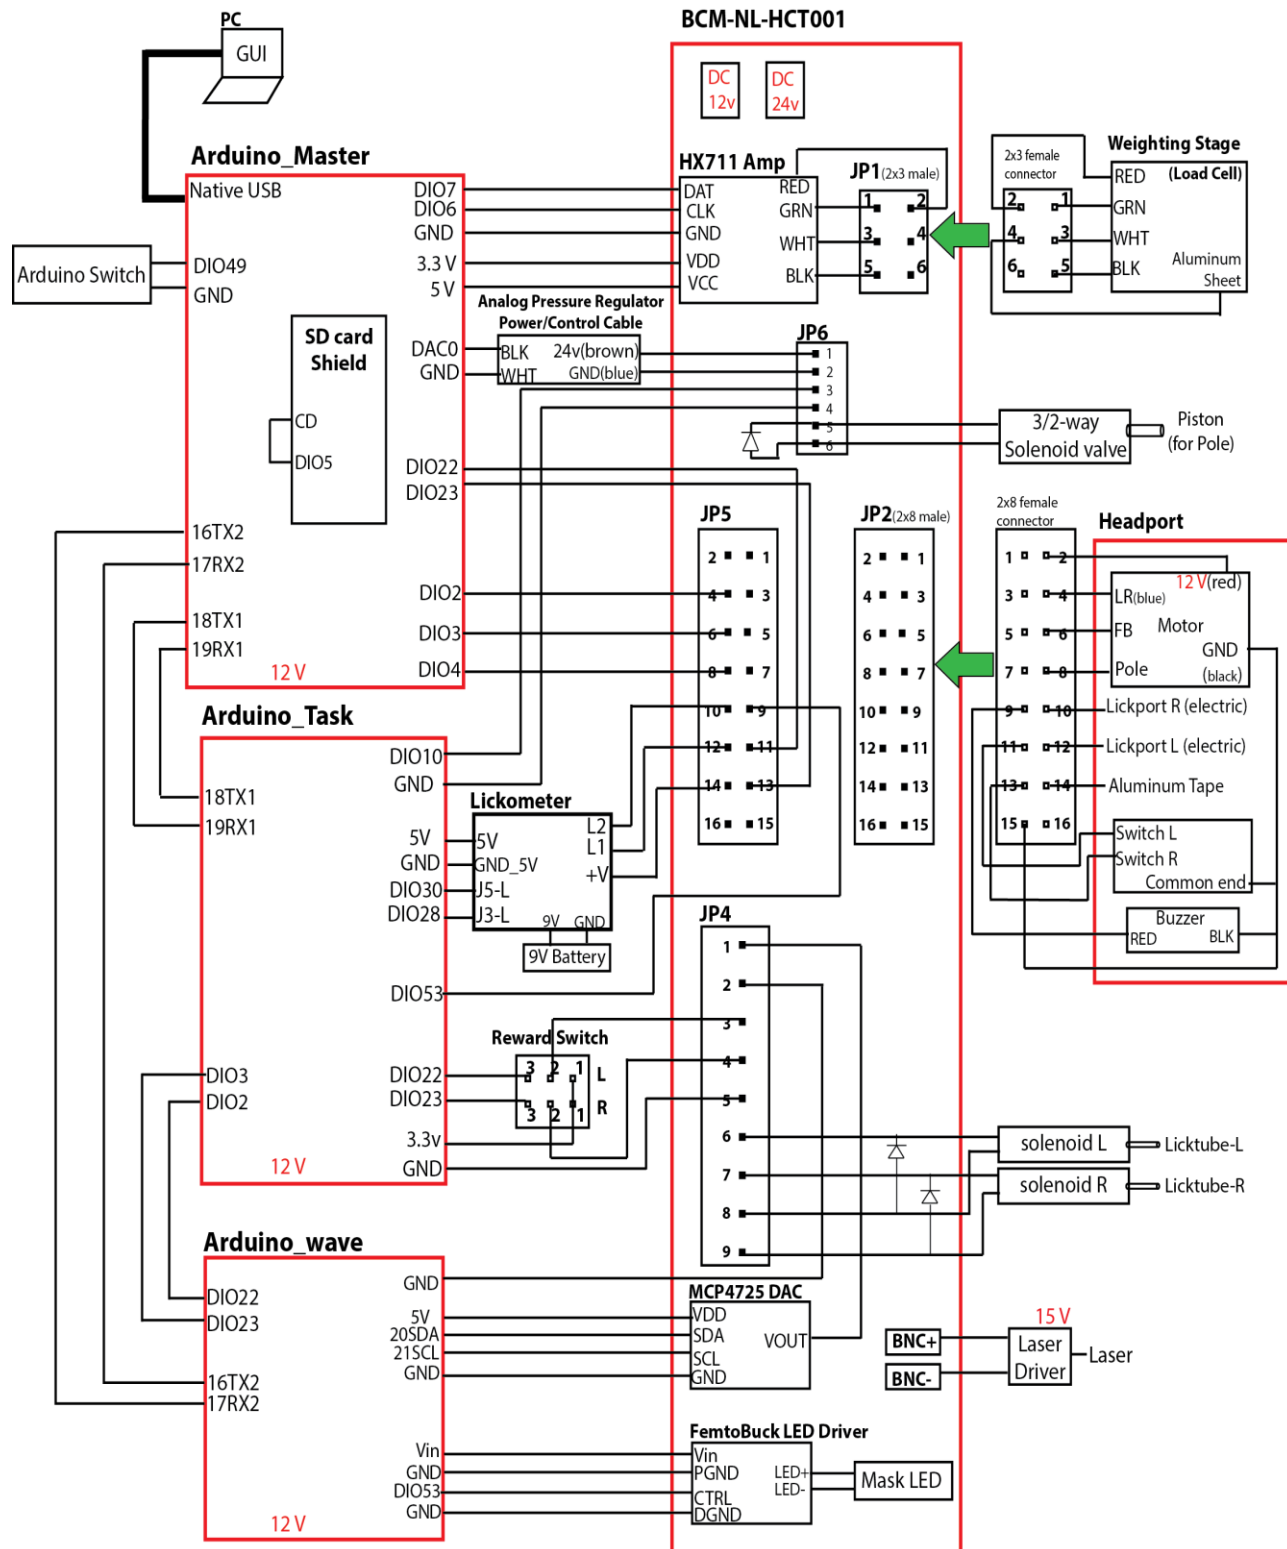
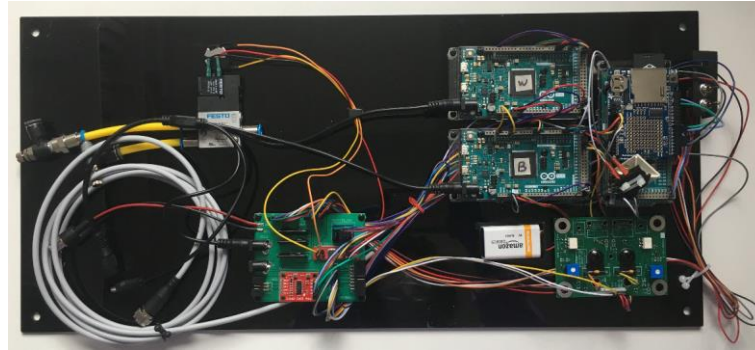

Fig.7.1
Fig. 7.2
- Connect the electric circuit according to the above diagram Fig.7.1. The components in the circuit can be located at Fig.2.1, Fig.2.2, Fig.2.3 and Fig.3.4 accordingly. Fig.7.2 shows the completed circuit connection.